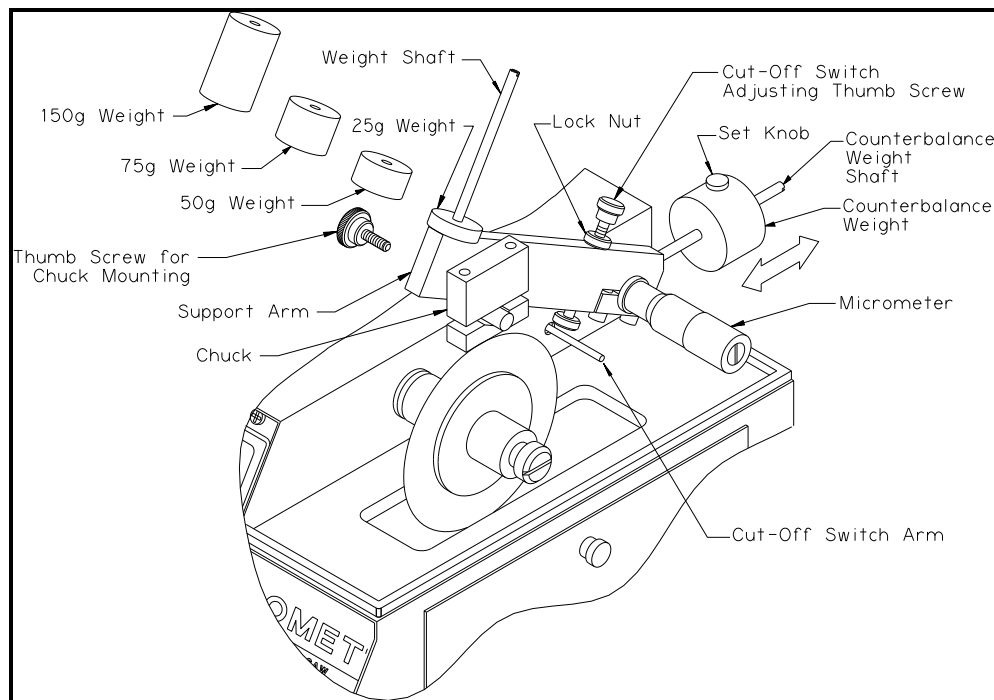

Figure 3: Weight Balance Diagram
1. Loosen the set knob (see Figure 3).
1. Depending on the sample size, adjust the thumbscrew in the support arm to disengage the saw (see Figure 3).
1. Adjust the micrometer to position the sample for cutting (see **Figure 3**).